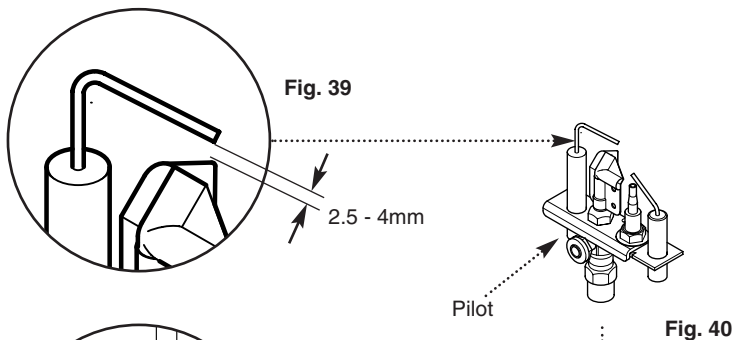

Fig. 39
3. If necessary clean the electrode and target, and check that the spark gap is 2.5 - 4.0mm (Fig. 39).